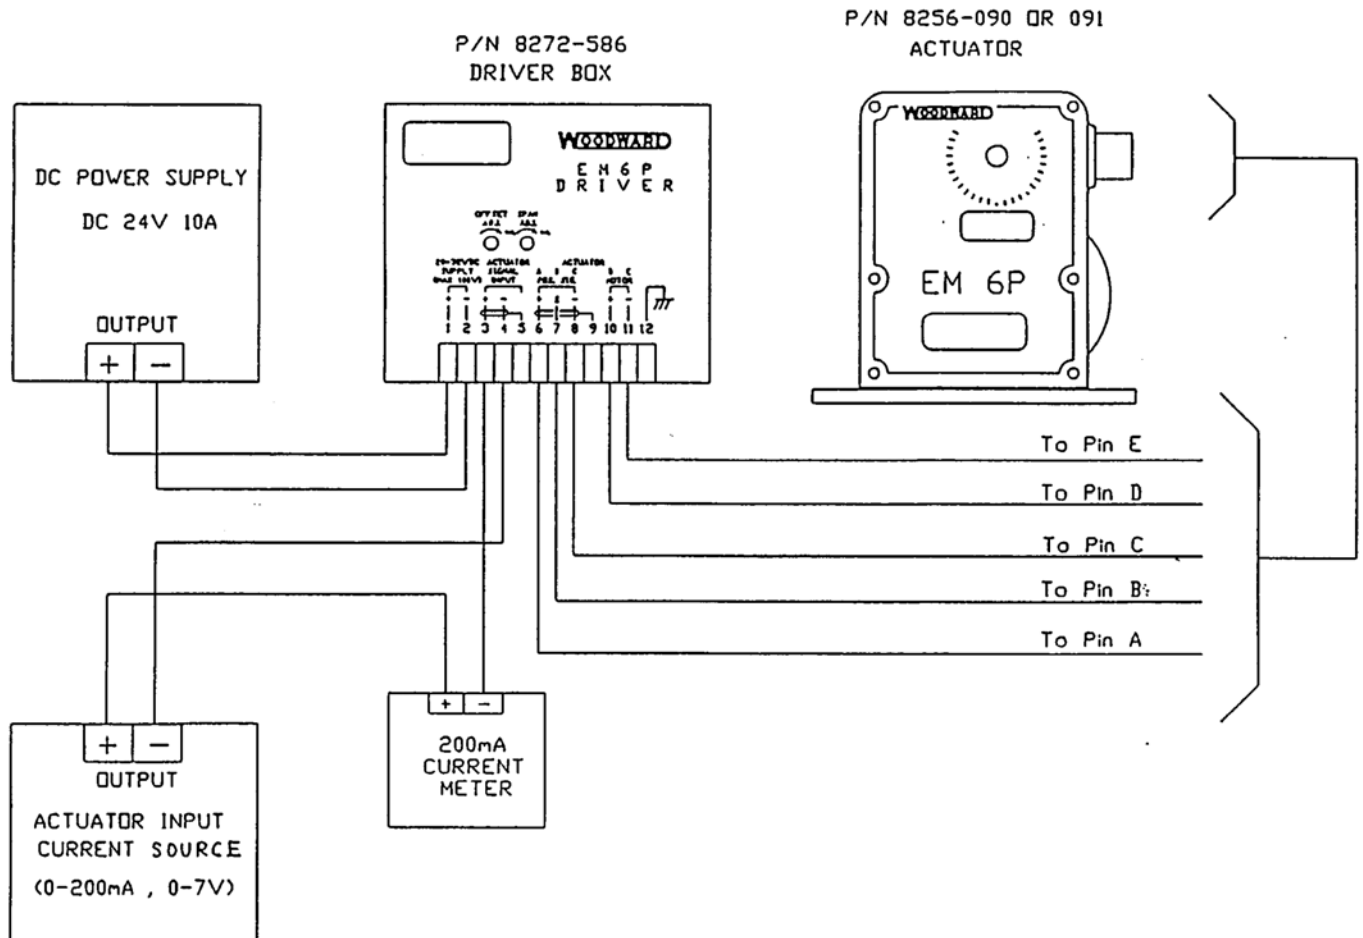

Figure 5-1. EM-6P Test and Calibration Wiring
The Driver Box is usually installed in the control cabinet for convenient access to other plant controls and the various inputs which will be needed. Do not install the Driver Box on the engine. See Figure 5-1 for Driver Box installation dimensions.
1. Connect the Driver Box to the actuator according to the calibration setup illustrated in Figure 5-1. If testing at an existing installation the wiring between the driver and the actuator should be carefully inspected for condition, shielding, and correct installation. Remove all linkage from the actuator output shaft.